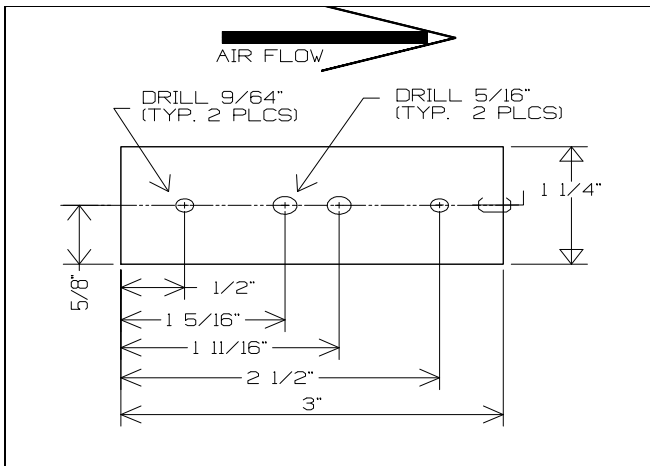

Figure 2: *Duct Probe Installation Dimensions*
- 2) Mark and drill the four holes for the duct probe as shown in Figure 2. The centerline must be parallel to the air flow through the duct.